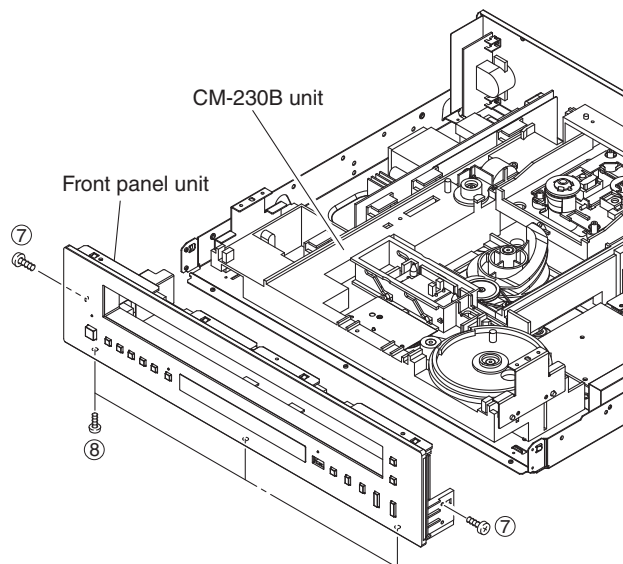

Fig. 6
- Remove 2 screws (⑦) and 3 screws (⑧). (Fig. 6)
- Remove the front panel unit. (Fig. 6)